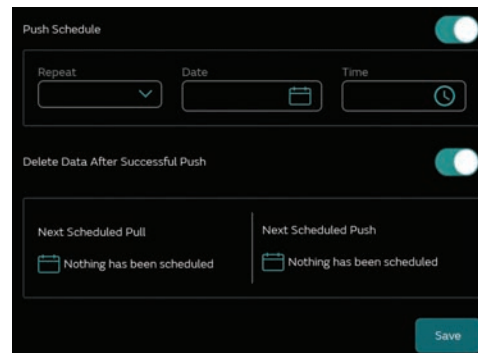

Figure 17. Scheduling for Push
2. Tap Intervals to **select** the frequency, Once, Daily, Weekly, or Monthly (Figure 17).